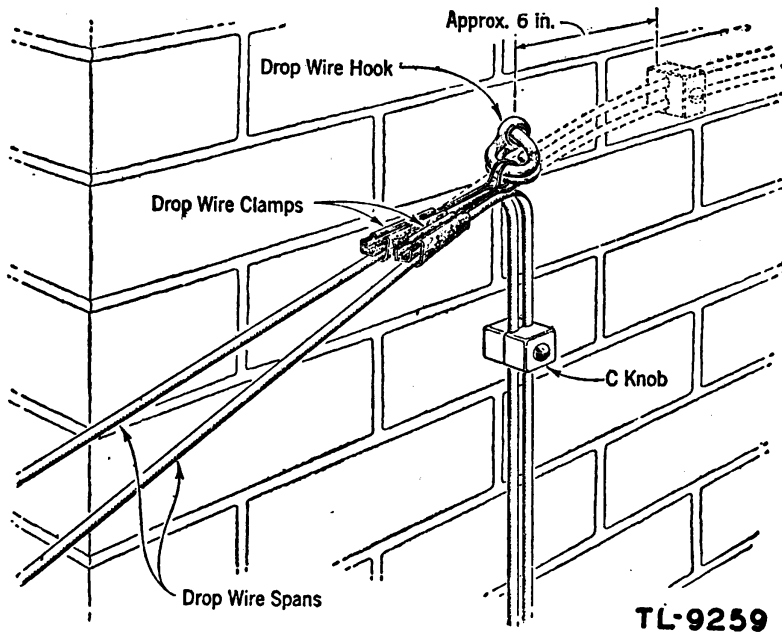

Figure 66. Double drop wire span attached to building.
(2) When a second drop is to be attached to a drop wire hook on masonry or brick veneer, remove the drop wire clamp from the building run of the first drop and place a "C" knob about 6 inches behind the first span attachment. (See fig. 66.)